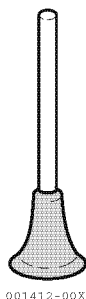

Figure 5-68
- Use a rubber cap type lapping tool for cylinders without a lapping tool groove with oil only (Figure 5-68).